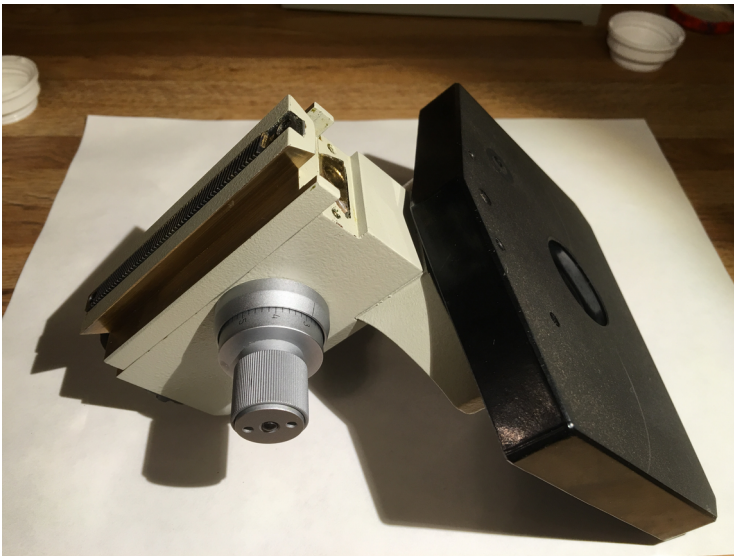

Figure 4
* Remove four screws under the black plastic stage to remove it from the stage carrier. (Figure 3, Figure 4) Set the stage aside.